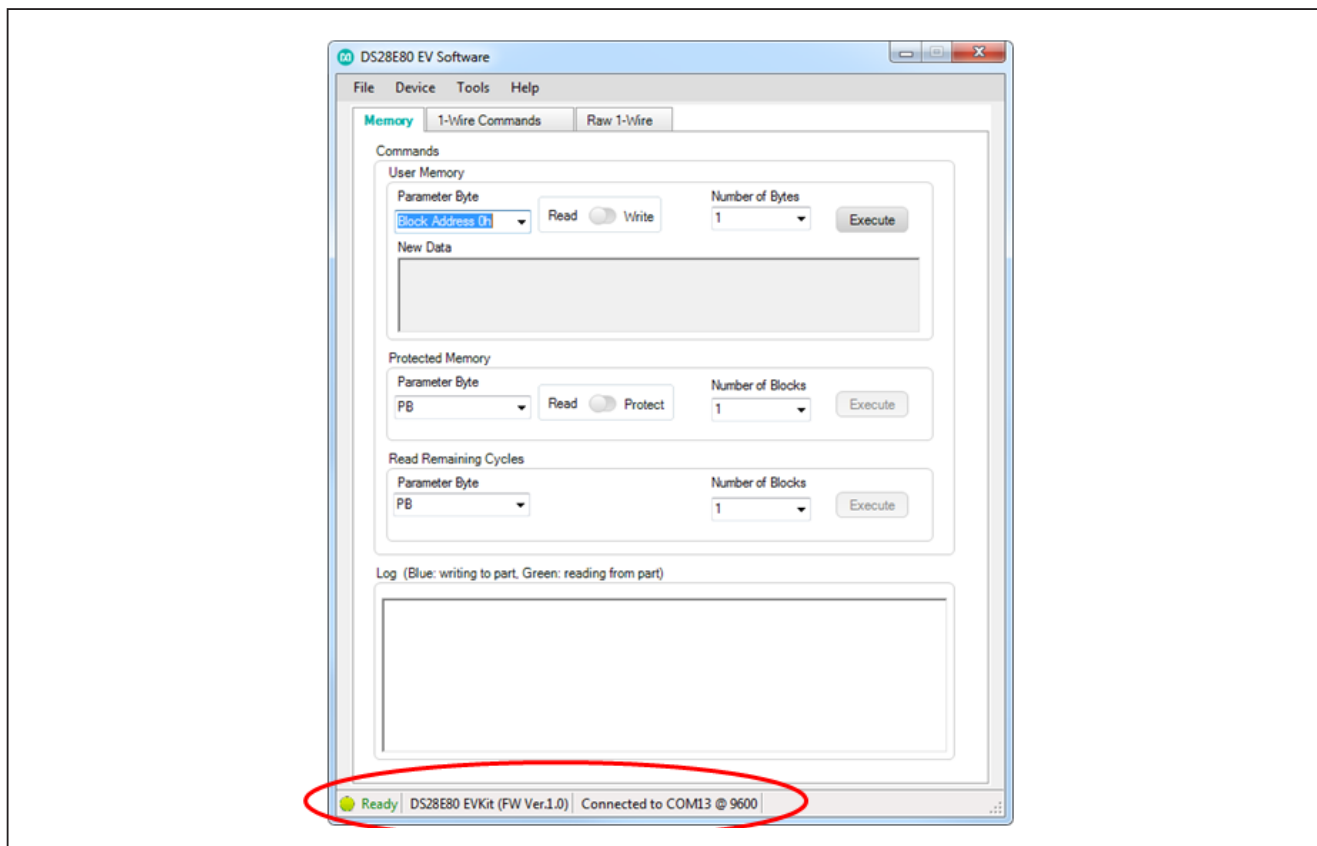
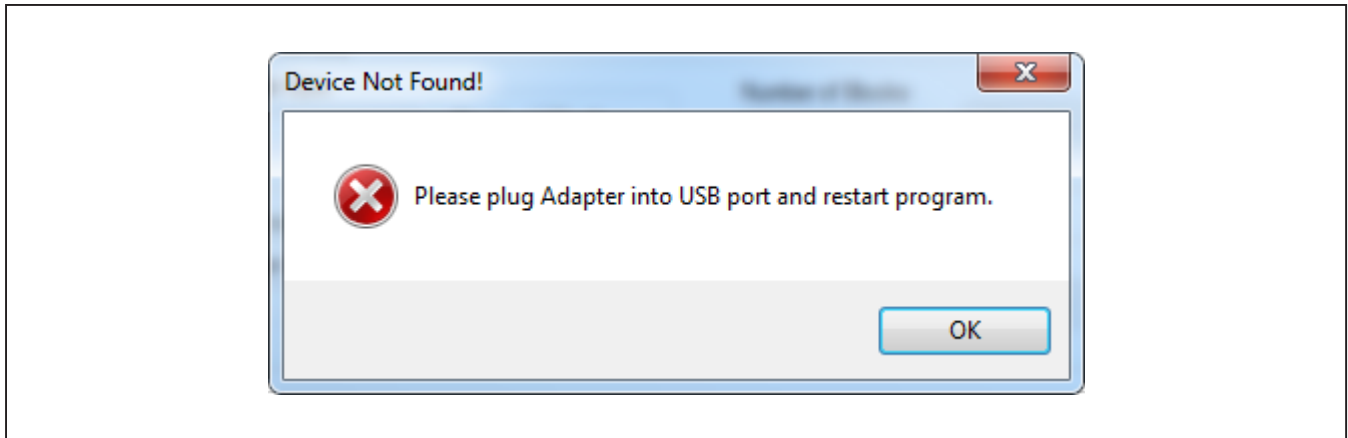

Figure 9. Adapter Connected
Figure 10. Adapter Not Connected
- **Connect:** Connects software with the DS9481R, enabling software to interact with the DS28E80 hardware (Figure 9). It is important to have the DS9481R connected to the software before initial start. If the DS9481R is not attached, or the 1-Wire drivers are not installed, the software prompts the user to connect the adapter and closes automatically (Figure 10).